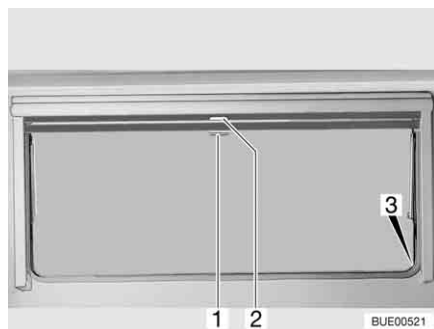

Fig. 87 Hinged window
- Pull blind at the handle (Fig. 87,2) downwards. If the blind is to be completely closed, it is suspended into the locking devices (Fig. 87,3) situated on both sides of the window frame.
- If the blind is completely closed: Press handle (Fig. 87,2) downwards and, at the same time, tilt it slightly inward. The blind can be taken out of the locking devices situated on both sides of the window frame.
- If the blind is in an intermediate position: Pull the handle (Fig. 87,2) slightly downwards until the locking device releases.
- Pull insect screen at the handle (Fig. 87,1) down and hang it into the locking devices (Fig. 87,3) situated on both sides of the window frame.
- Press handle (Fig. 87,1) downwards and, at the same time, tilt it slightly inward. The insect screen can be taken out of the locking devices situated on both sides of the window frame.